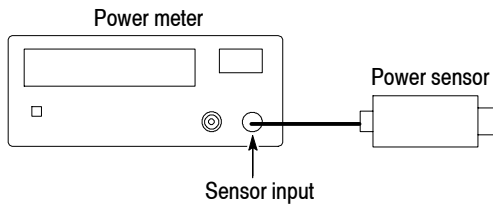

Figure 4-9: Initial hookup for setting up the power meter and sensor
- a. Connect the power meter and the power sensor. See Figure 4-9 below.